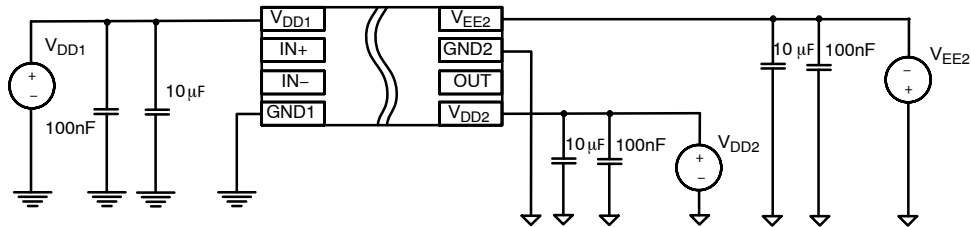

Figure 30. Bipolar Power Supply (Variant B)
- In bipolar power supply the driver is typically supplied with a positive voltage of 15 V at  $V_{DD2}$  and negative voltage  $-5$  V at  $V_{EE2}$  (Figure 30). Negative power supply prevents a dynamic turn on through the internal IGBT/MOSFET input capacitance